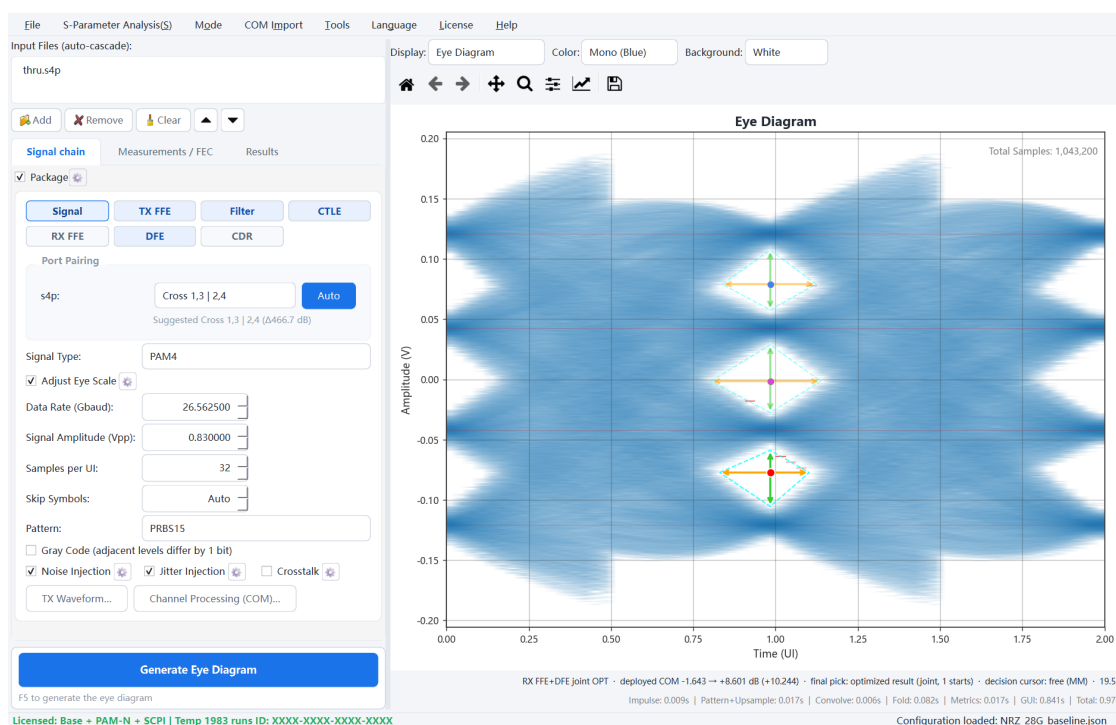

Fig. 5-2 Baseline eye right after COM import
Step 3 Leave every Auto Optimize After Import option off, then click OK. The baseline eye is generated automatically from the imported parameters (Fig. 5-2); further optimization is a separate exercise.